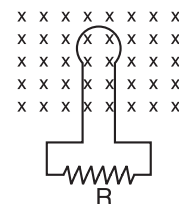

Fig. 9.4
**Example 9.5.** The magnetic flux passing perpendicular to the plane of the coil and directed into the paper (See Fig. 9.4) is varying according to the relation :